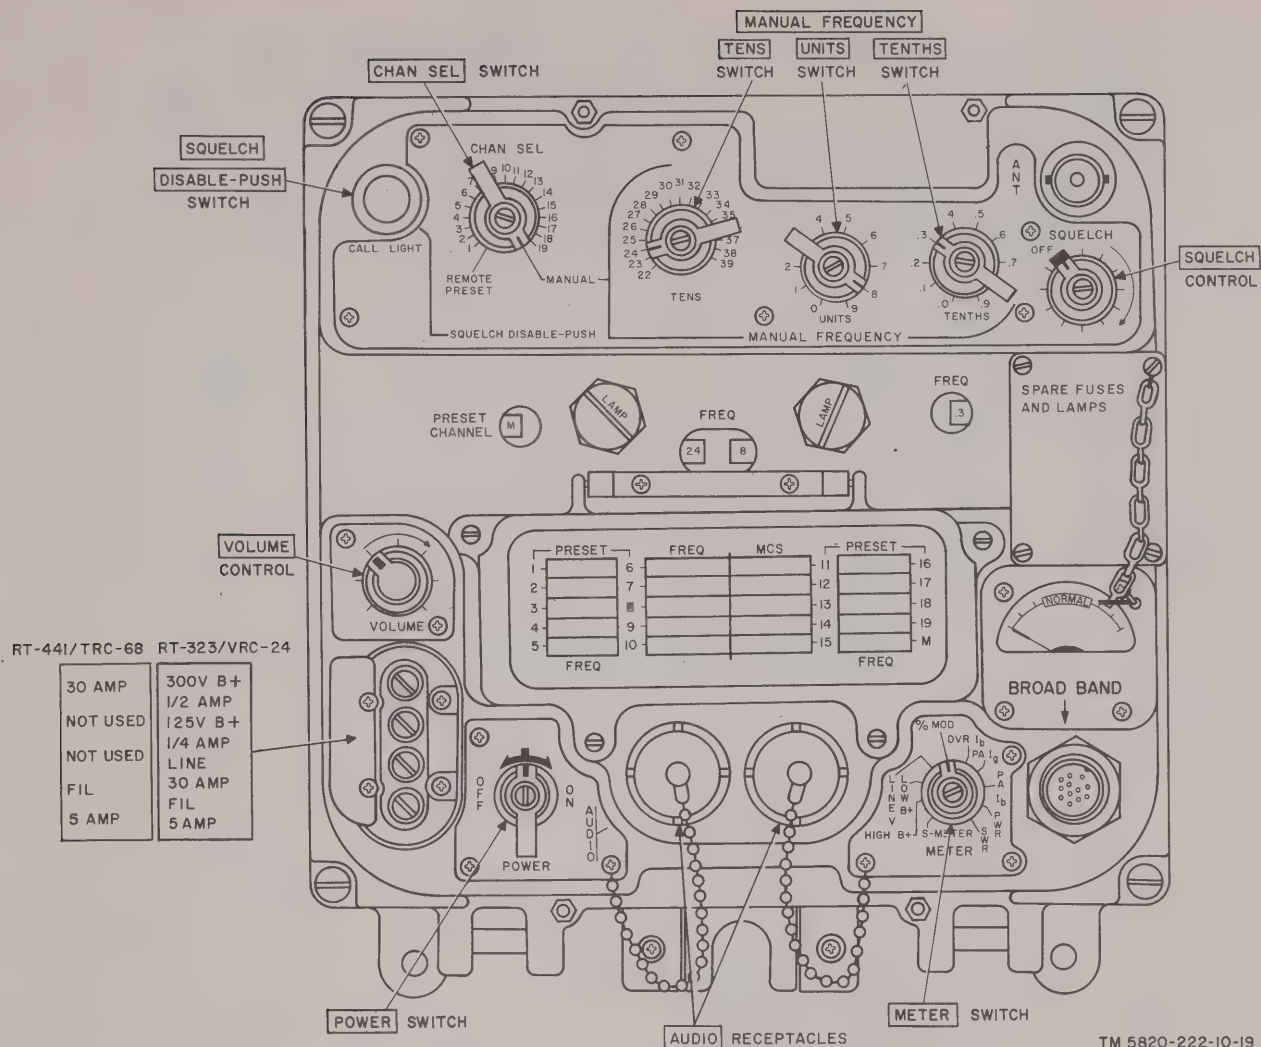

Figure 14. Receiver-Transmitters RT-323/VRC-24 or RT-441/TRC-68, controls, indicators, and receptacles.
20. Controls and Indicators, RT-323/VRC-24 and RT-441/TRC-68 (fig. 14)
- (1) At the receiver-transmitter, use the VOLUME control to adjust the loudspeaker or headset output (fig. 14).
- (1) Incorrect setting of switches and controls.
- (2) Power cable or signal cords disconnected or poorly connected.
b. *Procedure* (fig. 14).
- (1) Connect the headset or loudspeaker and the microphone to the AUDIO connectors.
- (2) Set the METER switch to the S-METER position.
- (3) Turn the SQUELCH control to OFF.
- (4) Set the VOLUME control to midrange.
- (5) Perform the steps shown in *c* below, in the order listed. *All steps refer to both Radio Sets AN/VRC-24 and AN/TRC-68 unless otherwise noted.* They are performed at the receiver-transmitter front panel. If the steps in *c* below yield normal performance and operation from the remote position is abnormal, the radio set control or connecting cable requires higher echelon repair. Observe equipment operation and perform any corrective measures necessary.